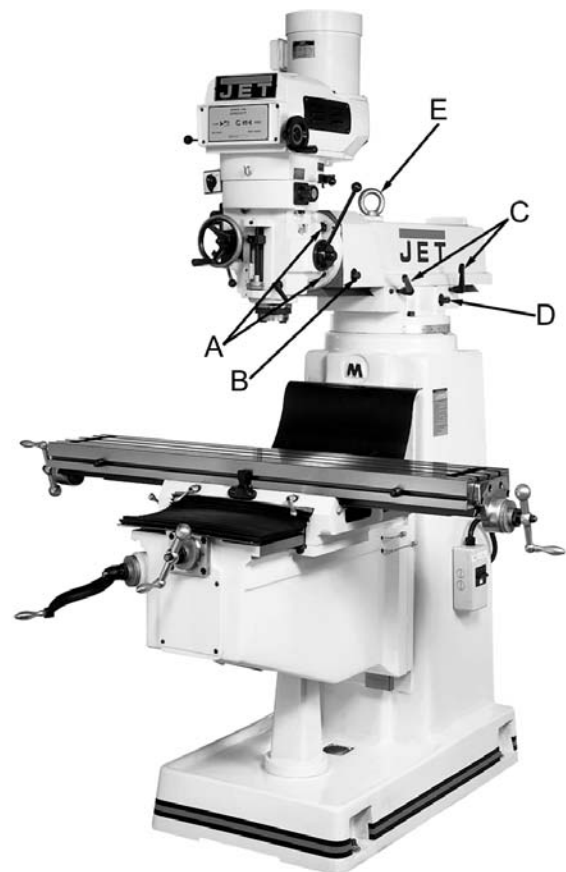

Figure 1
2. Raise the head by loosening four nuts, (A, Fig. 1) with a 22mm wrench, just enough to allow the head to raise into position. **Do not** remove the nuts; just break the nuts loose.
4. Tighten the four bolts (A, Fig. 1).
5. Loosen the two ram locking handles (C, Fig. 1) and move the ram forward by turning the hex head of the ram pinion (D, Fig. 1) with a 19mm socket and breaker bar.
The preferred method for lifting the mill is with a hook through the eye bolt in the ram (E, Fig. 1). Make sure the chain and hook are properly rated for the weight of the mill. Make sure the chain is not twisted and lift slowly. Make sure the mill is balanced before moving